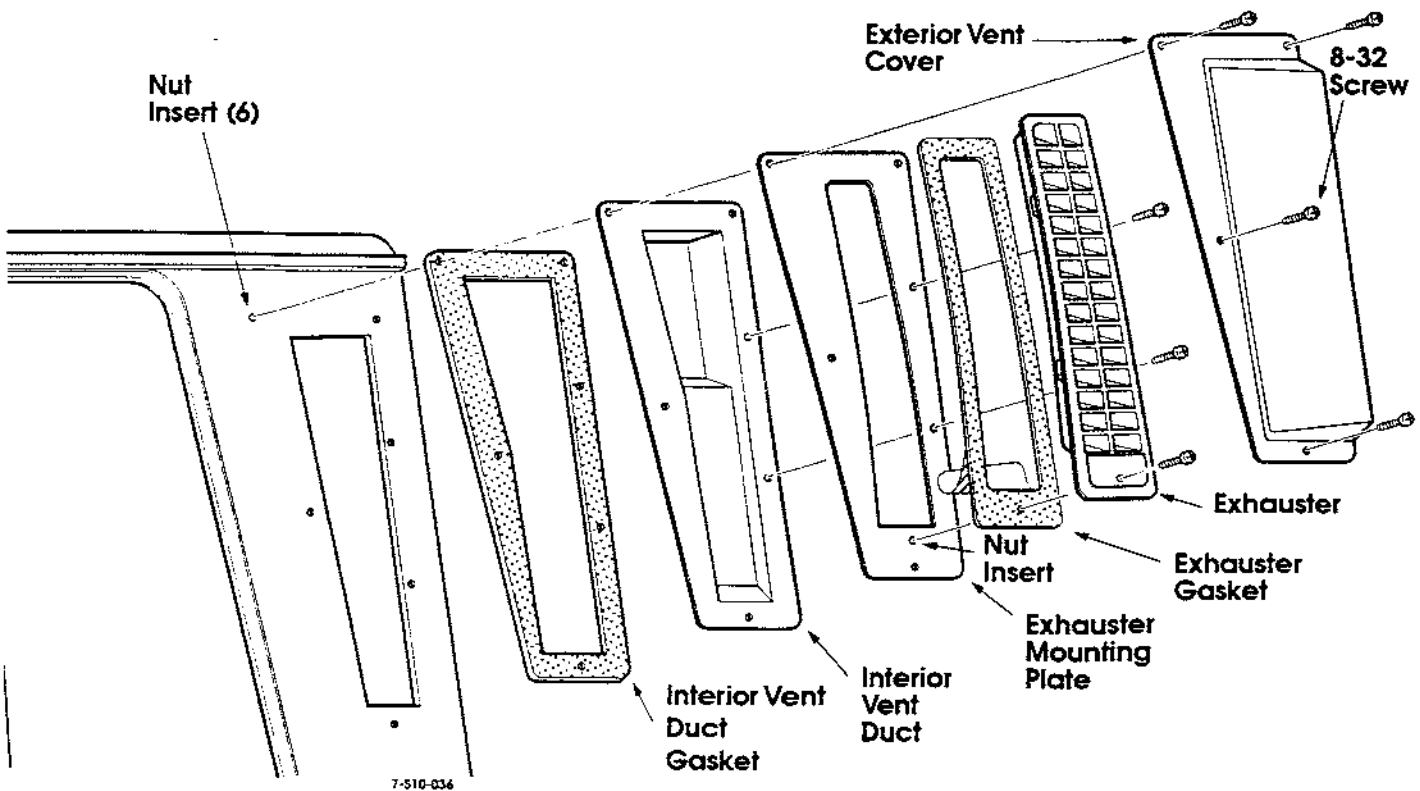

Figure 6 Vent Installation
7. Install (6) open end 8-32 nut inserts (Item 6) into holes drilled in step 6. Inserts are expanded using a rivet or plusnut gun. (See Figure 6).
8. Install additional nut insert (Item 6) into hole in exhauster mounting plate to mount exhauster (See Figure 6).
9. Install parts in order listed: (See Figure 6)